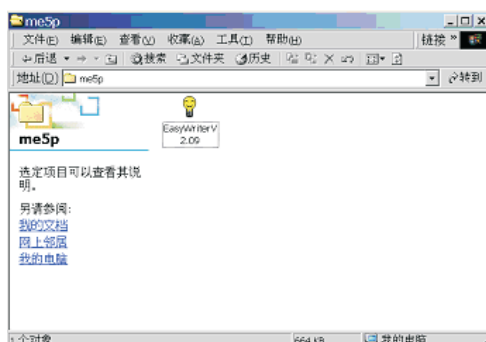

Fig. 4
Step 4 : Double click the EasywriterV2.09.exe icon to install the Application as Fig. 4.